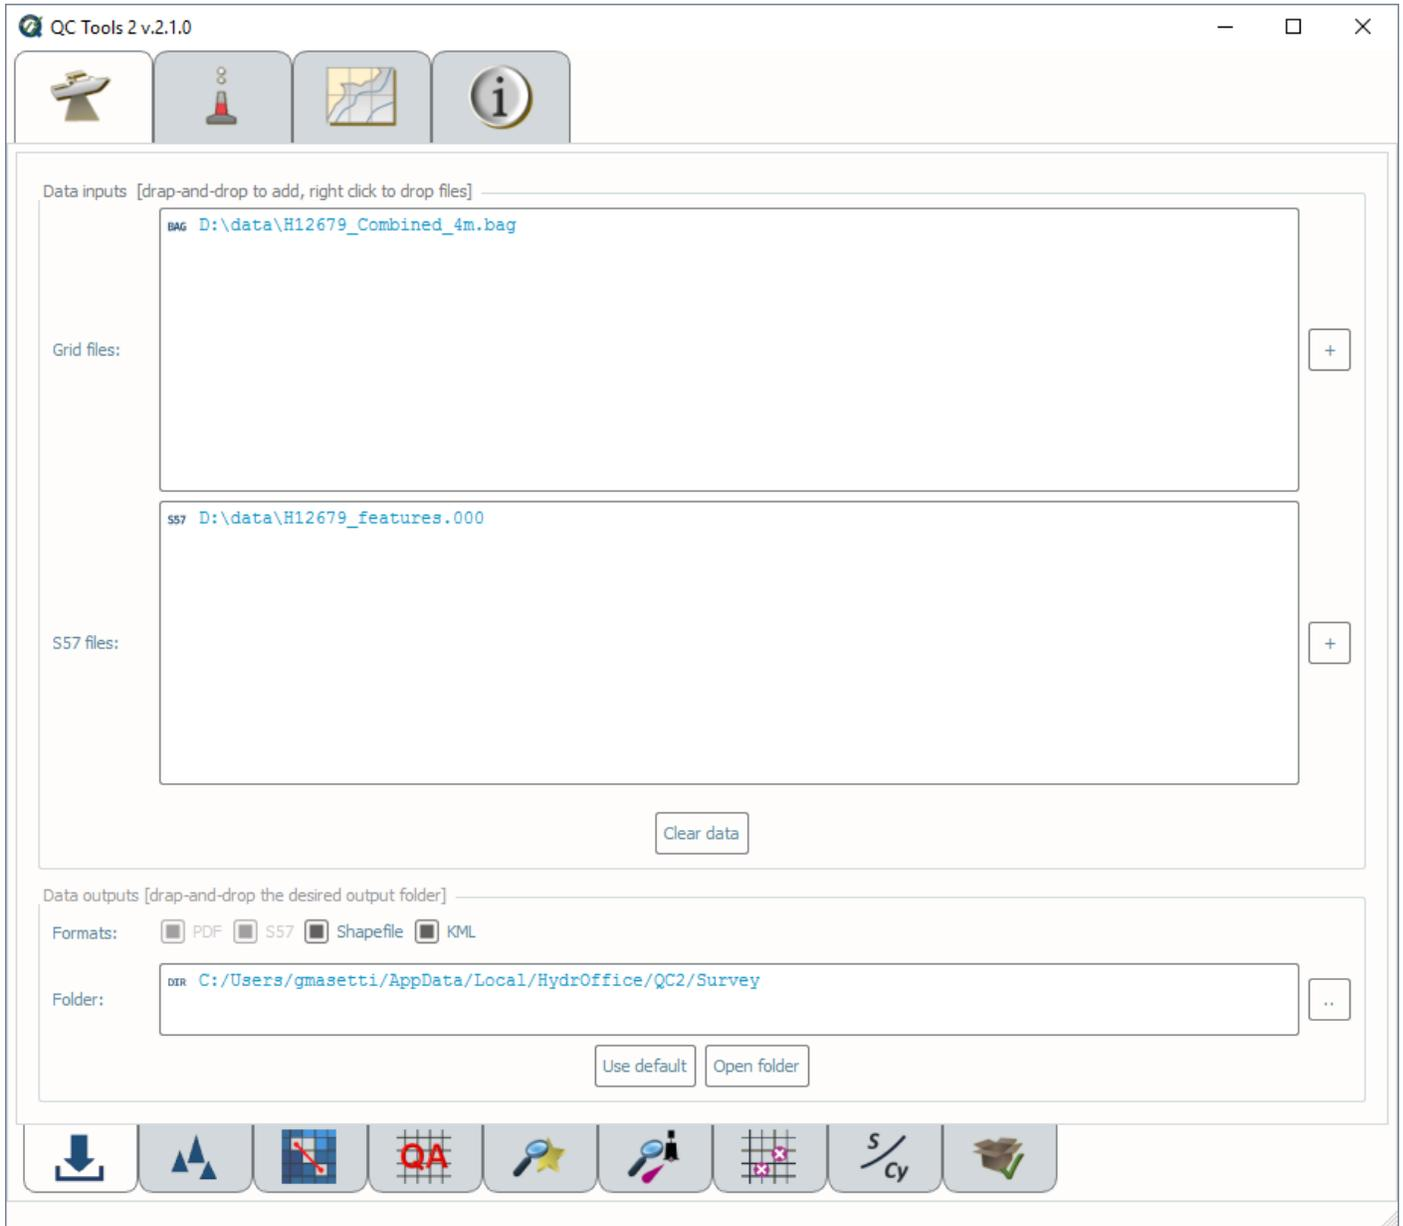

Fig. 2.1: Data inputs and outputs for the *Survey* tab.
- With the addition of a grid and features, the **Detect fliers**, **Detect holidays**, **Grid QA**, **Scan designated**, **Scan features**, **VALSOU checks**, and **SBDARE export** tabs on the bottom of the interface are now available (Fig. 2.1).